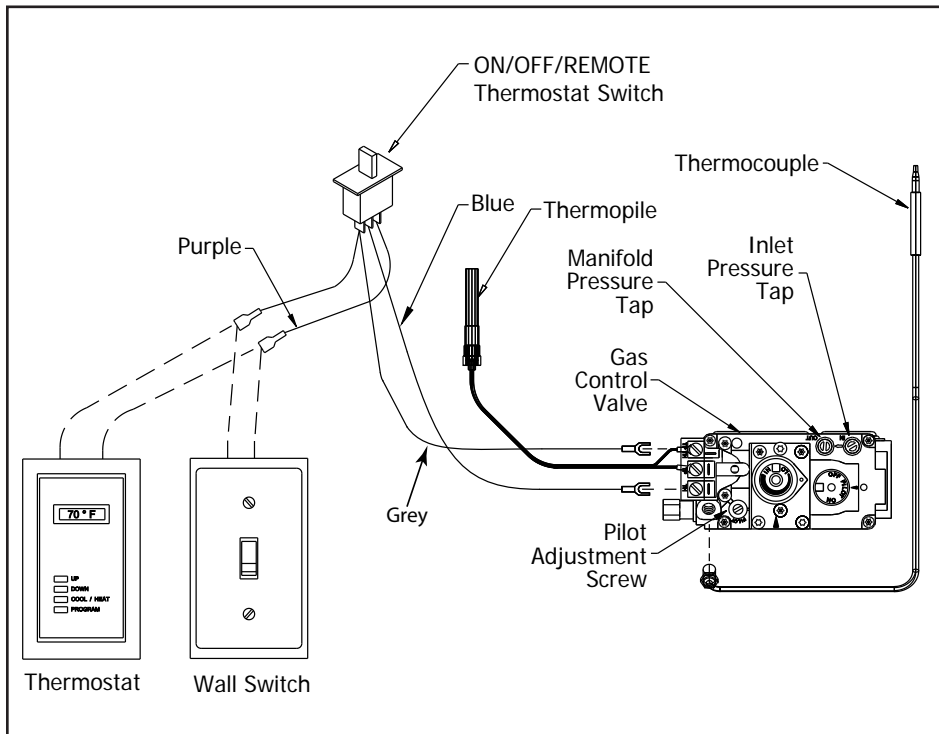

Figure 51: Accessory Wiring
The C60 comes from the manufacture with an on/off switch mounted to the control panel. Access is limited to switch once the unit is hot. **A wall mounted burner switch or thermostat must be used for safety.** See Figure 51 for wiring the switch or thermostat into the unit. Disconnect the connection behind the switch in the control panel as tap into the (2) terminals as shown in Figure 51.